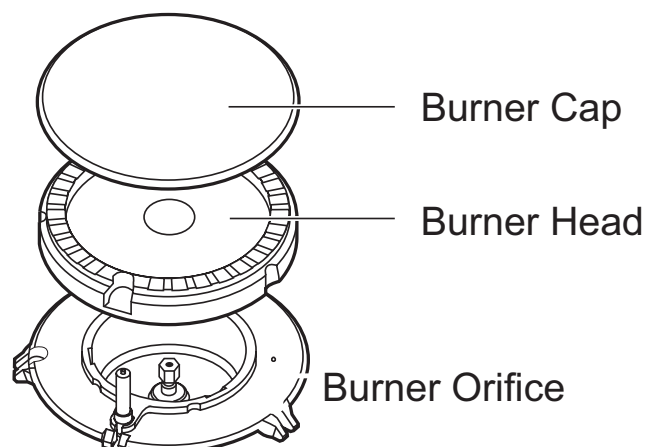

Figure 20: Cooktop cleaning
1. Remove the burner cap and burner head (see Figure 20). Clean the cap and head with hot soapy water and dry thoroughly.